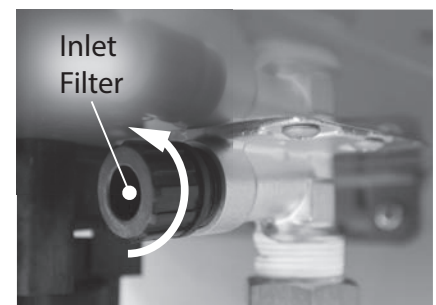

Figure 197 - Locate and remove inlet filter
- 7** Locate and remove the inlet filter as shown in Figure 197 to drain any residual water left in the system. Place a bucket or pan underneath inlet filter to collect water during removal.